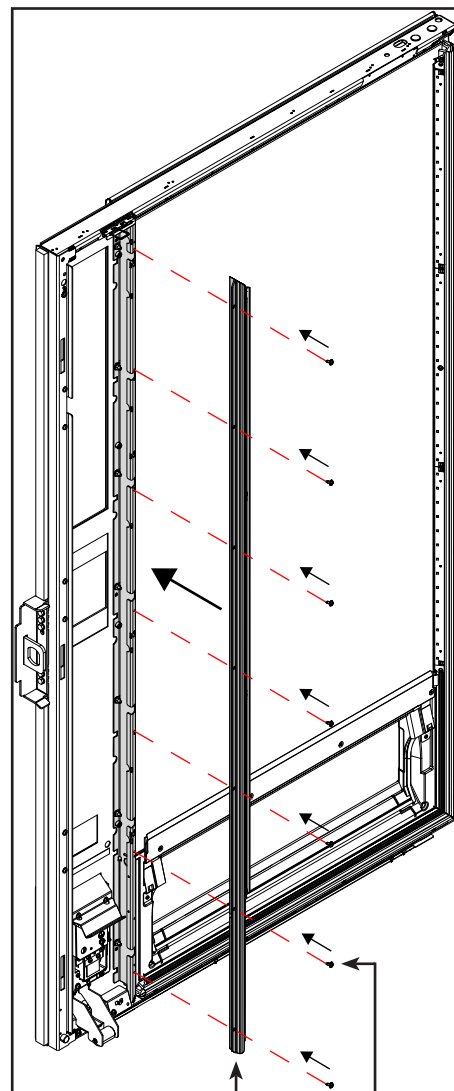

Figure 33
3. Fit the sealing profile on the left with 7x fillister head self-tapping screw with M4 hexalobular socket (Fig. 33).